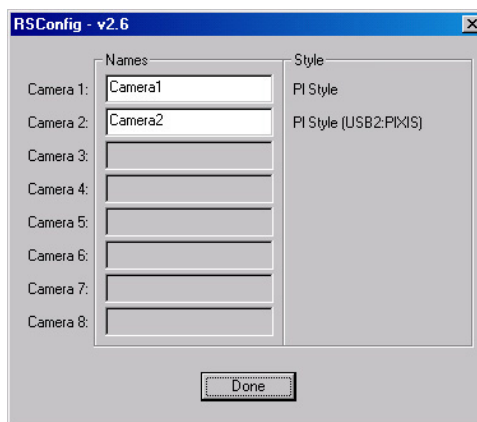

Figure 44. RSConfig dialog box: Two Camera Styles
4. When the RSConfig dialog box (Figure 44) appears, you can change the camera name to one that is more specific or you can keep the default name "Camera2". When you have finished, click on the **Done** button.